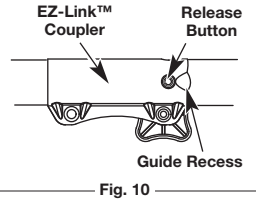

Fig. 10
WARNING: Avoid accidental starting. Make sure you are in the starting position when pulling the starter rope (Fig. 10). To avoid serious injury, the operator and unit must be in a stable position while starting. Make sure that any Add-On item is installed correctly and secure before starting the unit.
2. Press and hold the release button (Fig. 10).
NOTE: Aligning the release button with the guide recess will help installation (Fig. 10).